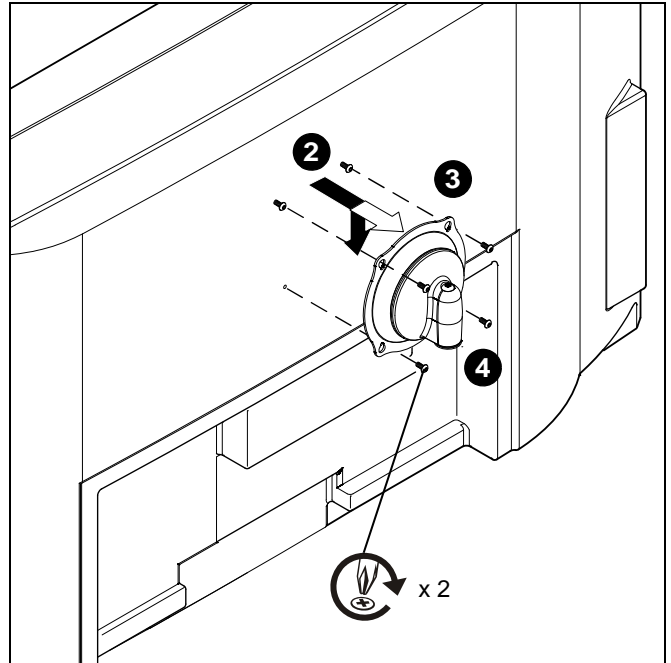

Figure 5
2. Align two screws in display back with upper mounting holes in Centris cup and lower display until screws are seated in lower area of teardrop mounting holes. (See Figure 5)
3. Install two more of the same screws through lower mounting holes in Centris cup and into display back. (See Figure 5)